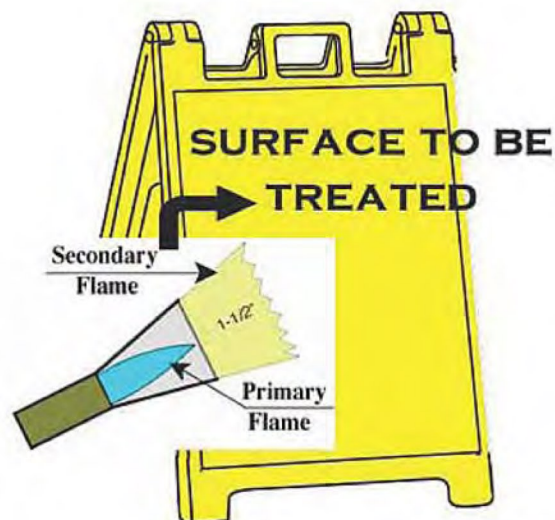

Fig. 2
4. Adjust the flame so that the primary flame is contained within the spreader, and the secondary flame is 1 1/2" beyond the spreader (see drawing fig 2.)